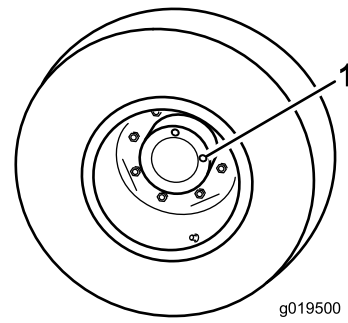

Figure 73
1. With the machine on a level surface, position the wheel so that one check plug (Figure 73) is at the 12 o'clock position and the other is at 3 o'clock position.
2. Remove the plug at the 3 o'clock position (Figure 73). Oil level should be at the bottom of the check plug hole